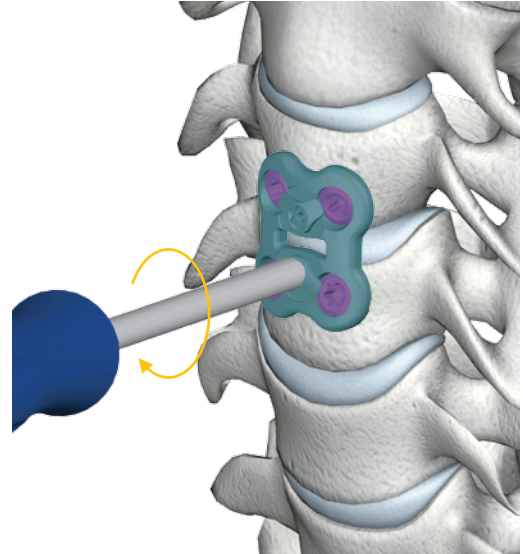

Figure 13
- Rotate the CAP clockwise until the CAP is parallel with the vertebral body (Figure 13). Be careful to ensure that the CAP is not over turned, as damage may occur.